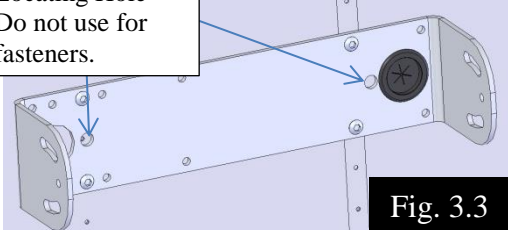

Fig. 3.3
3. Line up the 5/8" hole in the inner bracket with the mark made in step 1. Refer to figure 3.3.